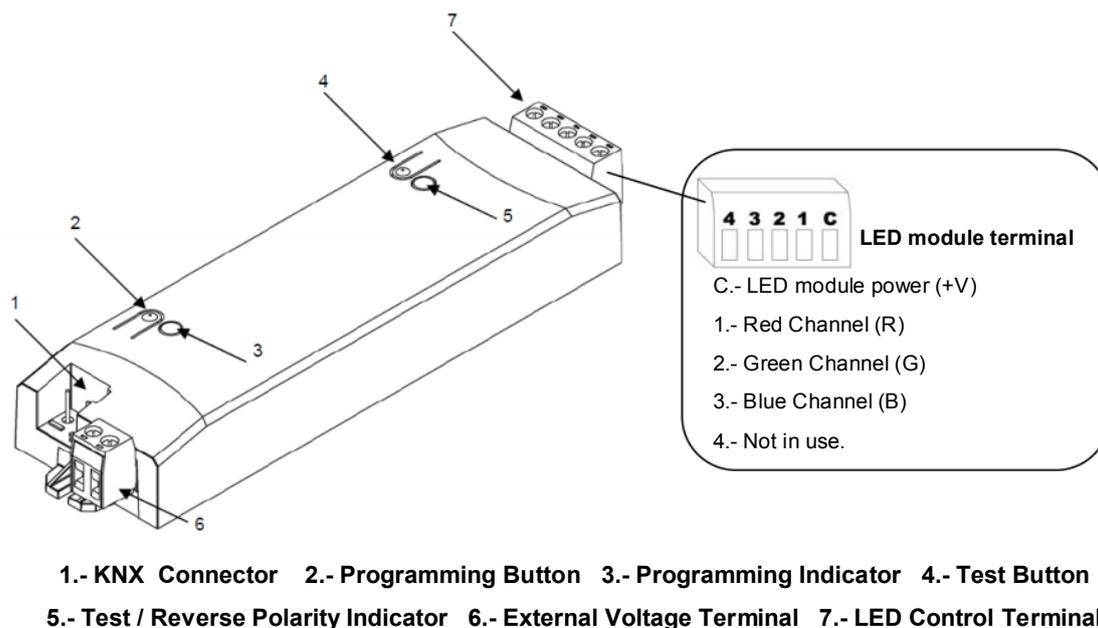

Figure 2. Connection scheme
Figure 2 shows the connection scheme of LUMENTO X3:
Also provided with the device is a second screw terminal block (7), where every LED module must be connected, as well as the power line (+V). The scheme of the terminal block is shown in Figure 2.